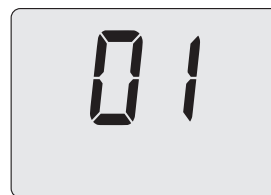

Figure 9.9
- 7 By using buttons "D" or "E" (Figure 9.5) it is possible to modify the value of parameter P10 (Figure 9.9):